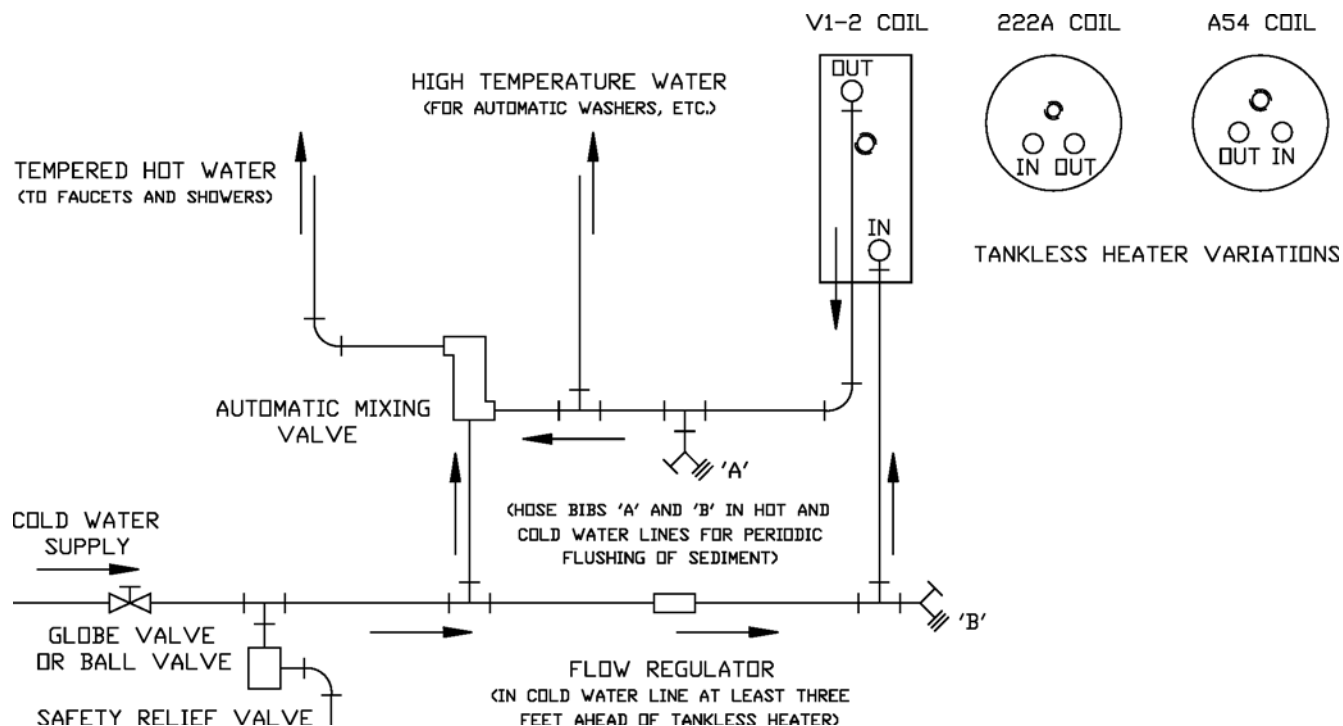

Figure 15A: Schematic Tankless Heater Piping
- A. **CONNECT TANKLESS HEATER PIPING** as shown in Figure 15A. See Tables 2A and 2B for Tankless Heater Rating.
required by dishwashers and automatic washers is possible by piping the hot water from the heater prior to entering the mixing valve. The mixing valve should be "trapped" by installing it below the cold water inlet to heater to prevent lime formation in the valve. Refer to Figure 15A.